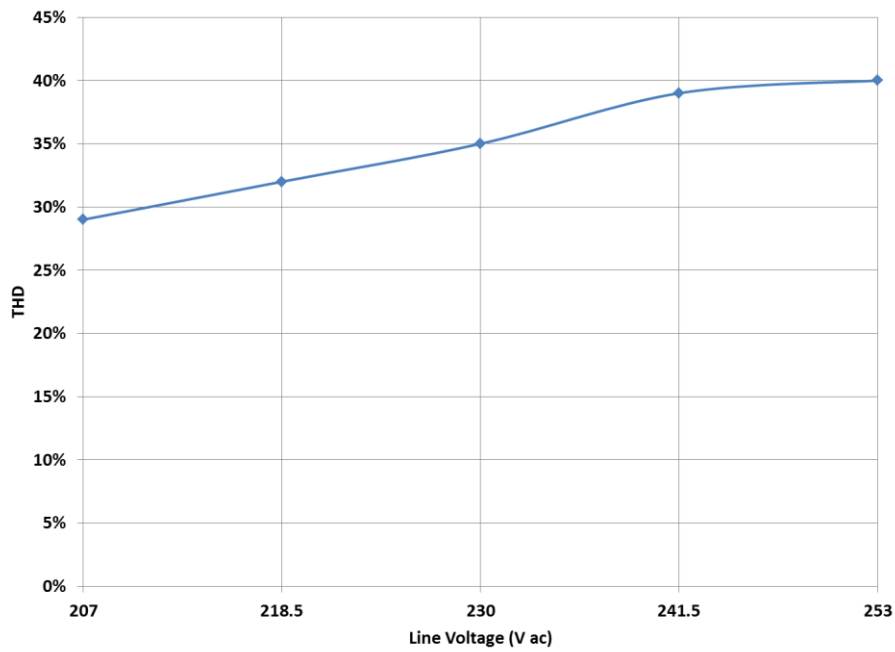

Figure 7. THD over Line
1. Connect the LED Load to the red(+) and black(-) leads through the ammeter shown in Figure 7. **Caution: Observe the correct polarity or the load may be damaged.**